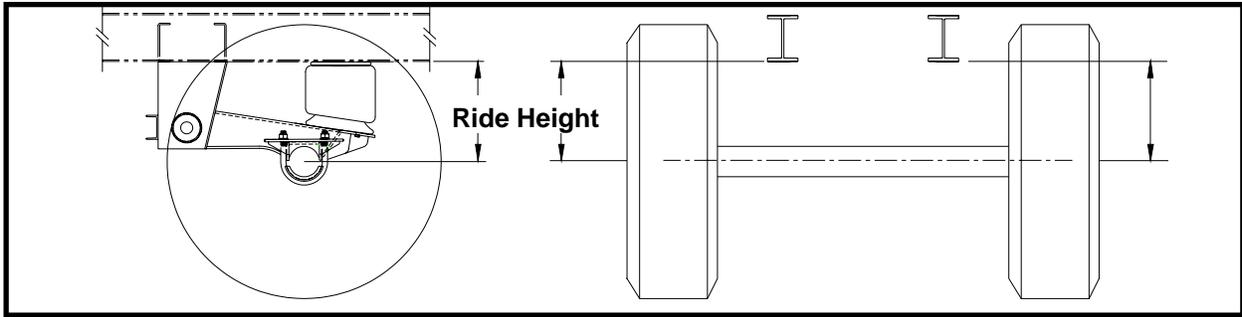

Figure 1
2. The suspension must be at the correct ride height to align properly. This can be done by adjusting the landing gear or using jacks to support the trailer. If the trailer is upside down to mount suspension, the axles may be blocked to the proper ride height. Trailer and axles must be level. Refer to **Figure 1** and make sure ride height is true on **both** sides of the trailer frame.